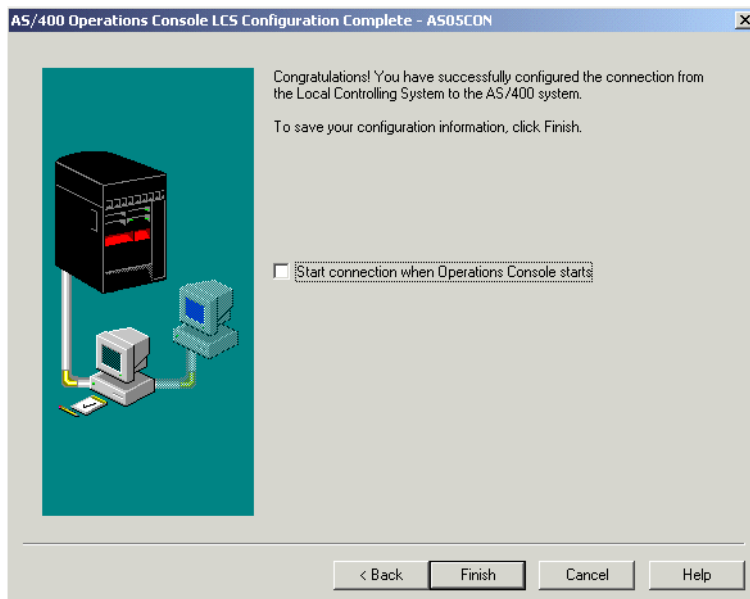

Figure 7-28 AS/400 Operations Console LCS Configuration Complete display
- Once all the profile information is stored, the connection definition is completed (Figure 7-28). Click **Finish**. We recommend that you leave cleared the **Start connection when Operations Console starts** box until you verify that the connection and associated functions work properly. It is more difficult to work with setup problems once the connection starts.